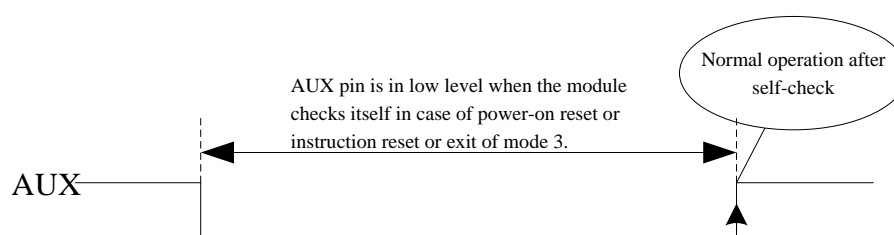

Figure 5: Timing Sequence Diagram of AUX when self-check
- Function 3: Configuration procedure of module. See Figure 5